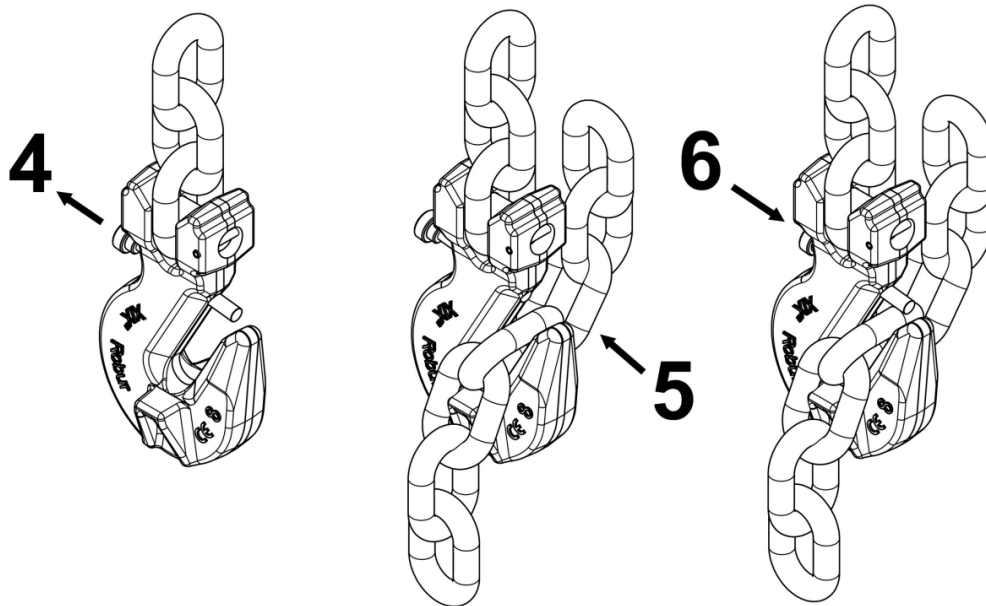

Fig. 3
6. Release the pin of the locking system to prevent the link from coming out of its seat; (Fig. 3).